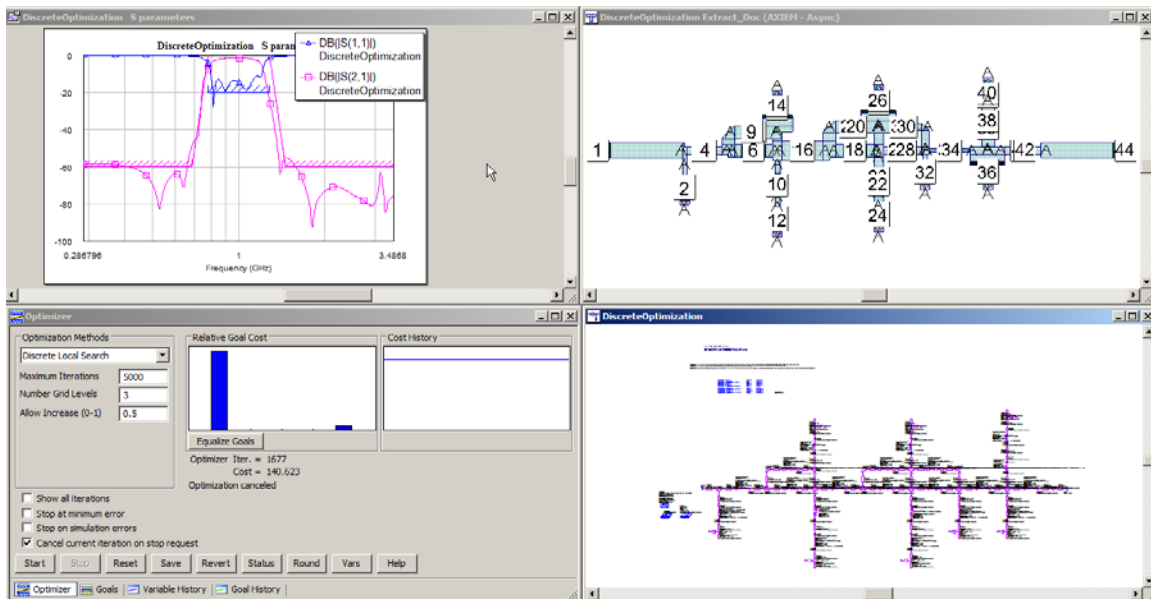

Figure 7: Electro-magnetic Analysis of Optimized Filter
At the 1 GHz design frequency, errors may still exist due to interconnect parasitics and interaction between interconnects that cannot be accounted for by circuit analysis. An electro-magnetic (EM) analysis using a Microwave Office supported tool, such as Axiem, will often reveal errors, as shown in Figure 7. Such errors are expected to increase with frequency. A 5 GHz design for example, would be expected to have significantly more error. (Note the slight degradation of S11).